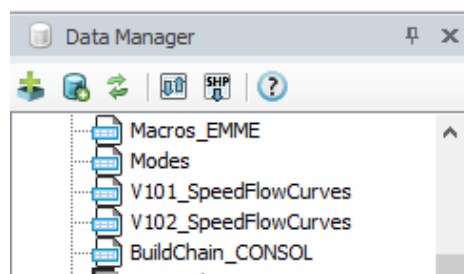

Figure 93 Data Manager
- 3) Select BuildChain_CONSOL in data manager window, see Figure 93.